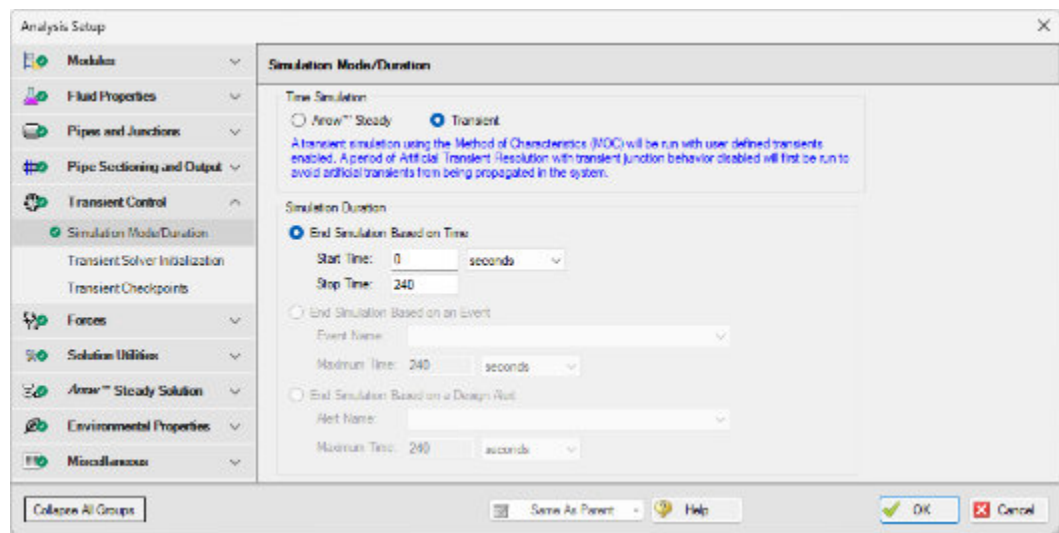

Figure 2.17 The Simulation Mode/Duration panel is used to specify the simulation type and the time span for the transient
- ▶ **Select the Simulation Mode/Duration panel.** Enter 0 seconds for the Start Time and 240 seconds for the Stop Time (Figure 2.17).